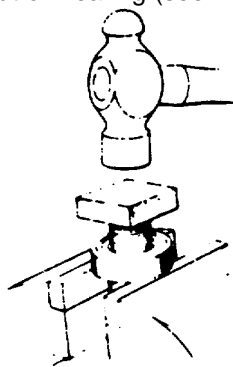

FIGURE 127
- (k) Clamp Spindle Nose in a vise. Using 3/8" (9.5 mm) diameter rod of Step (1), unscrew and remove Spindle Shaft.
- (l) Press Front and Rear Bearings off Shaft. If arbor press is not available, place Spindle Shaft with Bearing extending over open jaws of vise, hold block of wood over end of Spindle Shaft, and hit with hammer to force Shaft out of Bearing (see Figure 127).